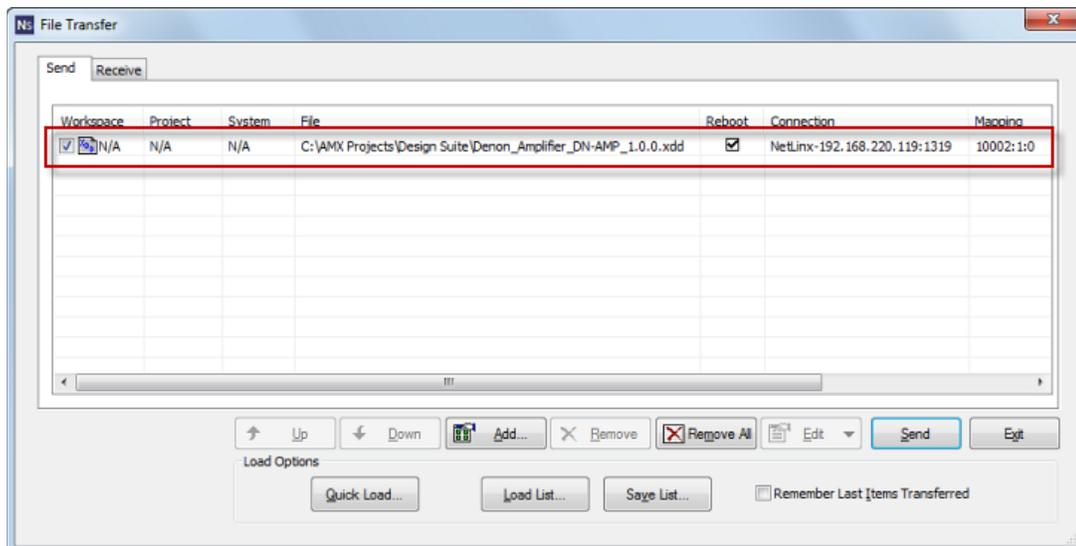

FIG. 115 File Transfer dialog (Send tab) - XDD file indicated in the Files to Transfer list
7. Click **OK** to close the *Select Files for File Transfer* dialog and return to the *File Transfer dialog (Send tab)*. The selected XDD file is now indicated in the *Files to transfer* list (FIG. 115):